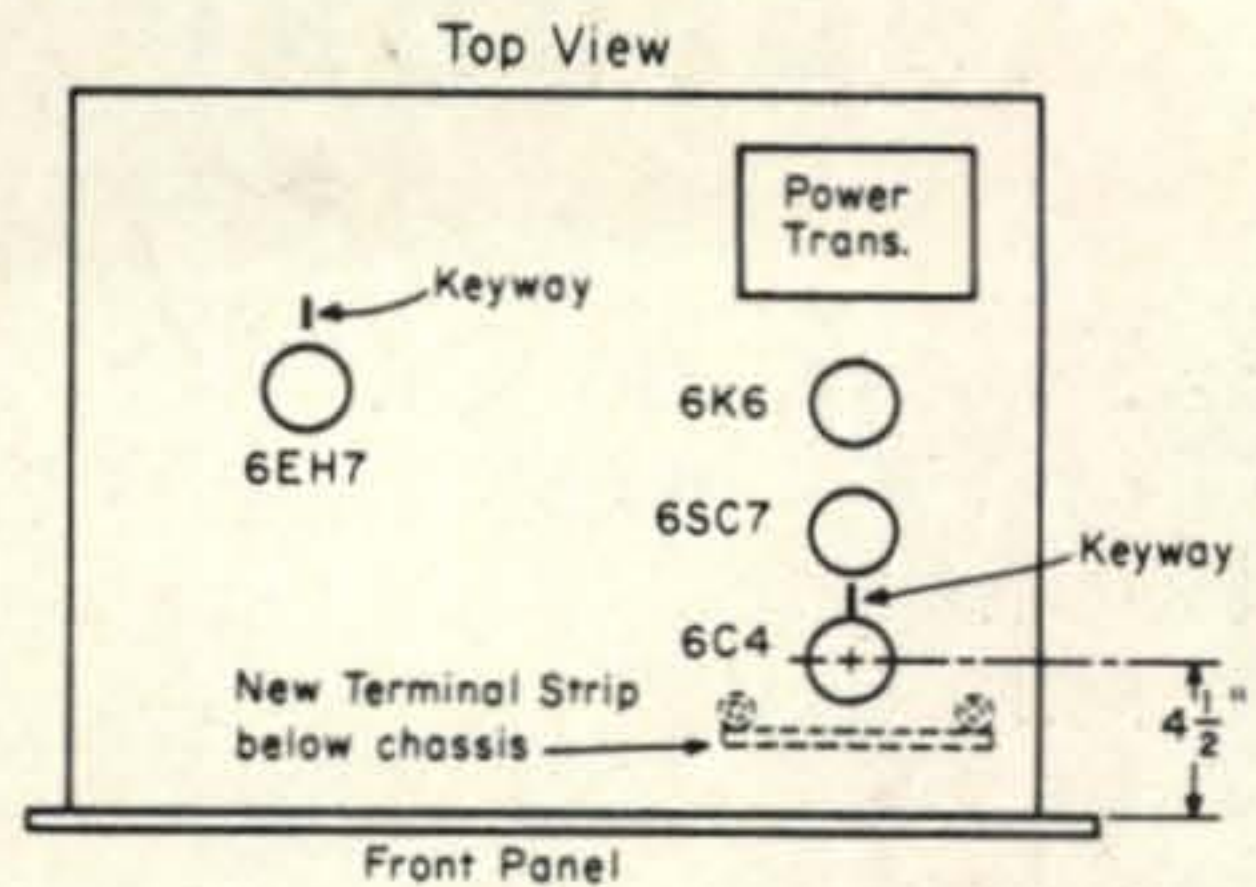

Fig. 2—Top view of the receiver showing the location of the r.f. amplifier (6EH7) and the added 6C4 50 kc i.f. amplifier.
4. Place new socket in position so that the grid lead connection will be short. (Keyway to the rear as shown in fig. 2.)
1. Determine the point to make pilot hole for socket punch for a miniature 7 pin socket. (Be certain that wiring below is in the clear. Look at the chassis from the top and view the layout for the socket as shown in fig. 2.)
2. Place socket in position with keyway to the rear. (See fig. 2)
grounded) should be installed alongside bottom of socket for the 6C4 as shown in fig. 2.